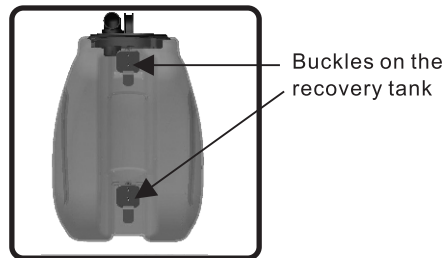
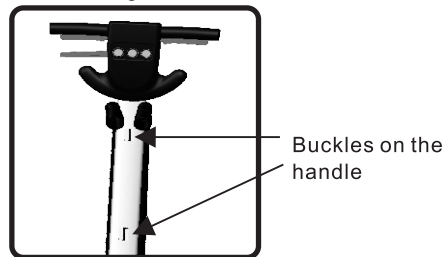

fig.5
fig.6
- ① Unpack the machine and the recovery tank ;
- ② Make the handle of the machine vertical. Then hold the recovery tank and align the two buckles on it (fig.5) with the two buckles on the handle (fig.6); release the recovery tank to lock the buckles and finishing assembling the recovery tank.